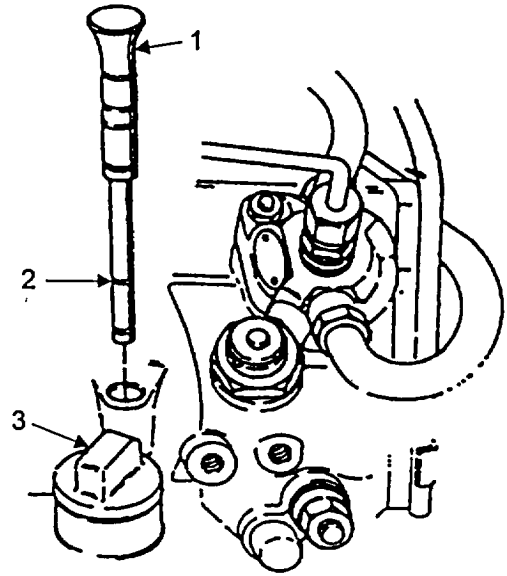

FIGURE 3-13. ENGINE OIL FILL
- a. Remove dipstick (Figure 3-13, Item 1) and wipe with lint-free cloth.
- c. Oil should coat the dipstick up to the top mark (2) (max.).
- d. If oil is below the top mark, remove cap (3) and add oil to bring oil level to top mark. Again check oil level to be sure oil coats dipstick to top (max.) mark.
- e. Check that oil cap (3) is tightly closed.